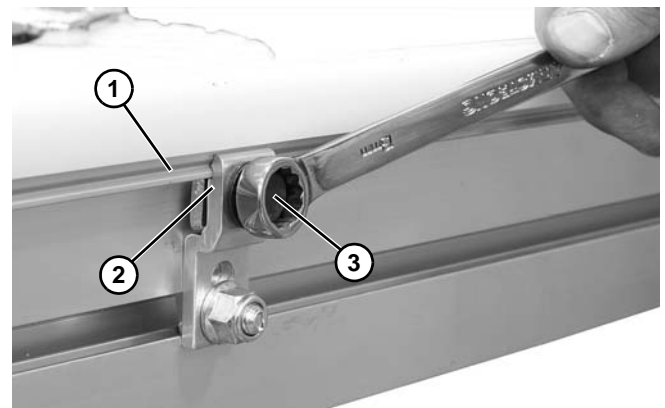

Figure 72
5. Attach guiding (**Figure 72, item 1**) to clip (**Figure 72, item 2**) and tighten screw (**Figure 72, item 3**).